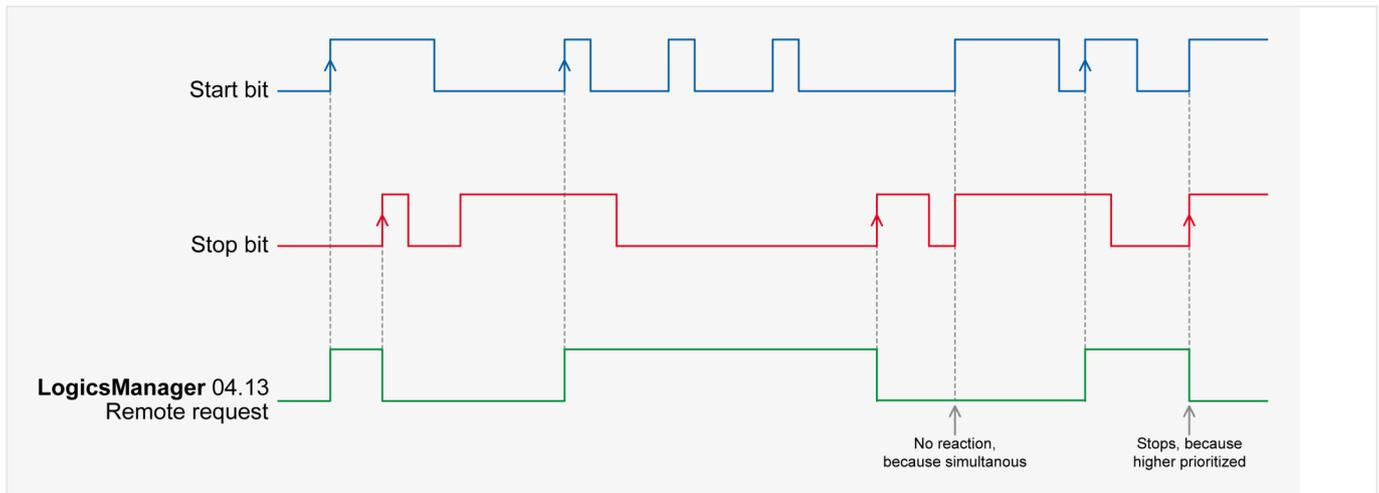

Fig. 281: Command variable
- The command variable "04.13 Remote request" changes to "0" (low) if the stop bit (ID 503, bit 1) changes from "0" to "1" (↪ Fig. 281).